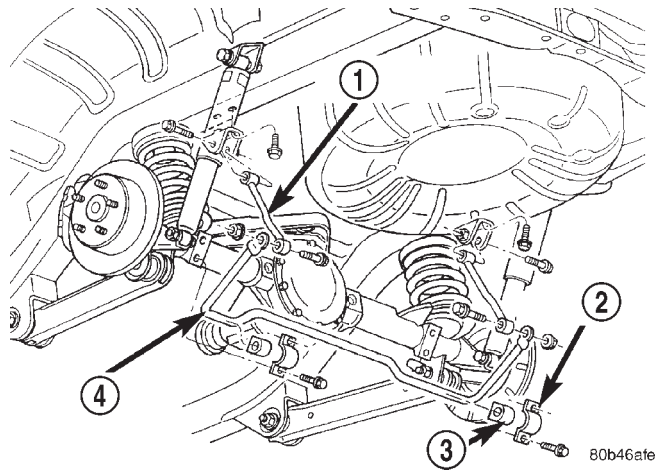

Fig. 14 Rear Stabilizer Bar
- (2) Remove the stabilizer bar links from stabilizer bar and frame mount. (Fig. 14).
- (3) Remove the stabilizer bar retainer bolts.
- (4) Remove the stabilizer bar.